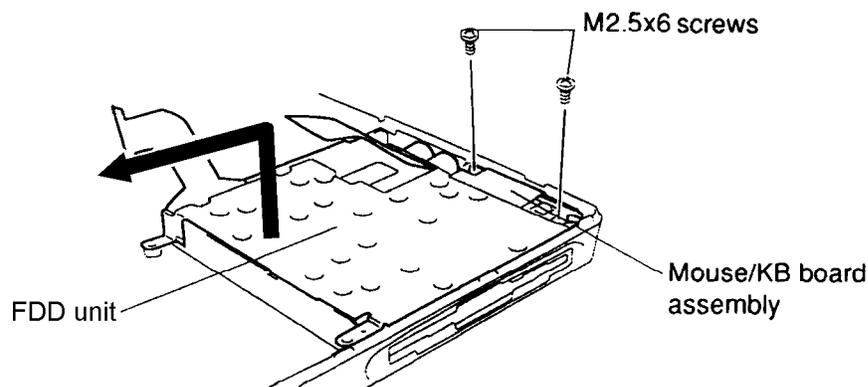

Figure 4-22 Removing the FDD and Mouse/KB Board
To remove the T1960CS/T1960CT's floppy disk drive and mouse/KB board, follow the steps below and refer to Figures 4-22 through 4-24.
3. Remove the **two M2.5x6 silver screws** on the **mouse/KB board assembly** (Figure 4-22).
4. Lift the left side of the **FDD unit** with **mouse/KB board assembly** and slowly pull it to the left to remove the assembly from the chassis (Figure 4-22).
To install the T1960CS/T1960CT's floppy disk drive and mouse/KB board, follow the steps below and refer to Figures 4-22 through 4-24.
3. Place the **FDD assembly** in the computer, right side first, and secure the **mouse/KB board** with **two 2.5x6 silver screws** (Figure 4-22).